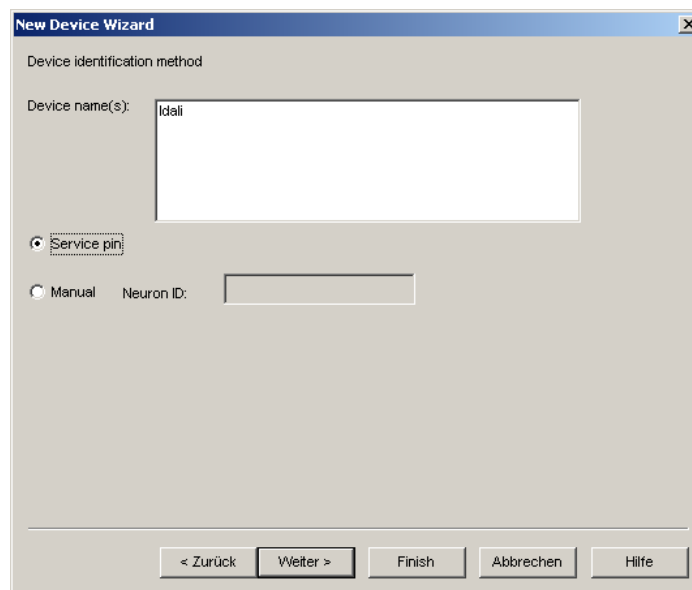

Figure 130: Use Service Pin.
6. Check Service Pin as the device identification method as shown in Figure 130 and click **Next**.